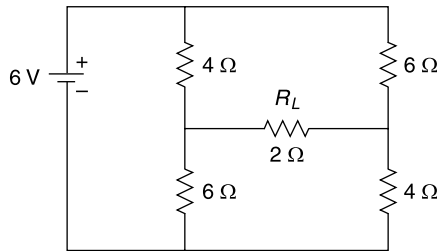

Fig. 4.86 Circuit of Ex. 4.59
4.59 Find the current through the 2Ω resistor using Thevenin's theorem [Fig. 4.86].
The circuit is redrawn in Fig. 4.86(a) with terminals of R_L open circuited.